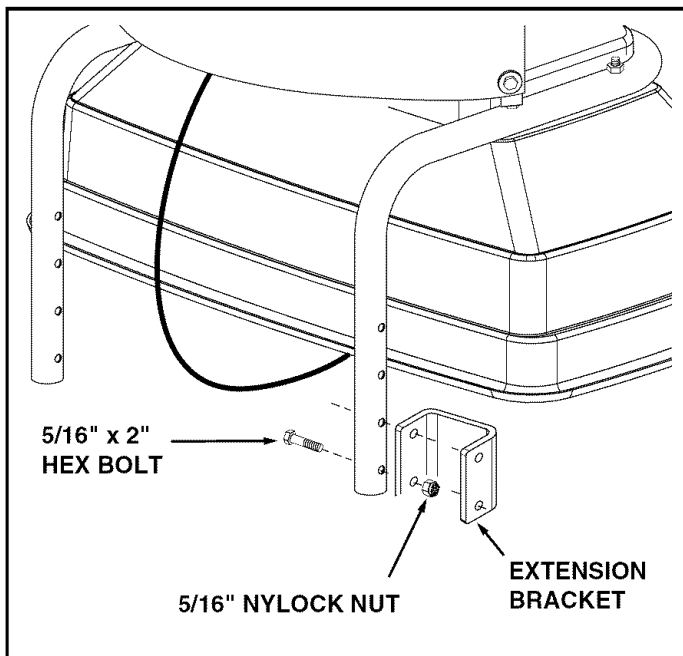

FIGURE 4
IMPORTANT: Before proceeding, determine if the mounting brackets, when attached directly to the spreader frame, will fit onto the vehicle rack. If they need to be farther apart, use the extension brackets in figure 4.
6. Attach the extension brackets to the legs of the spreader frame. Use two 5/16" x 2" hex bolts and 5/16" nylock nuts per bracket. **Tighten.** See figure 4.